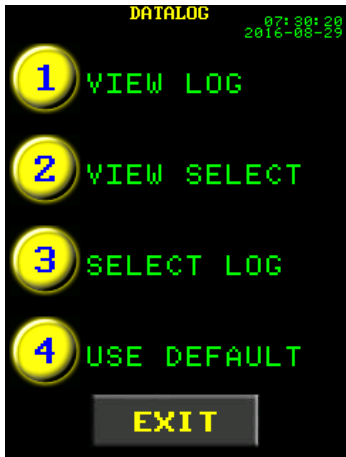

Figure 4.5-1: DataLog Menu
2. Choose **"Select Log"** from the DataLog Menu (Figure 4.5-1).